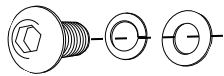
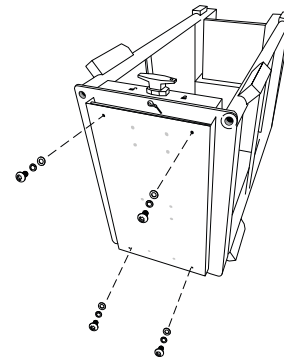

Fig. 1.3 Securing M6 mounting screws.
Fig. 1.4 Securing weight plate with M6 mounting screws.
3. To secure the weight plate, align with the screw holes in the bottom of the cart and tighten the M6 hex screws with a hex wrench tool (four screws total). Make sure each mounting screw has a lock washer, and washer (see fig. 1.3) before securing weight plate to base (see fig. 1.4).